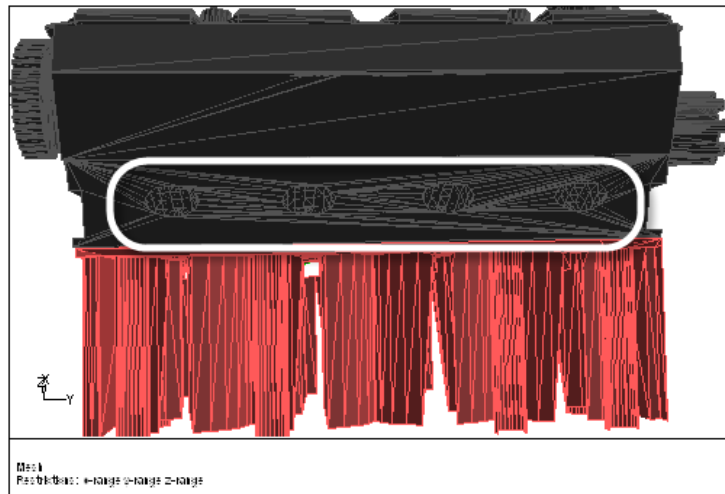

Figure 7.5: Coplanar Holes in the f\_v8-top-right Zone
- f\_v8-top-right (see Figure 7.5)
- (e) Click **Display** and pan to the region shown in Figure 7.5.